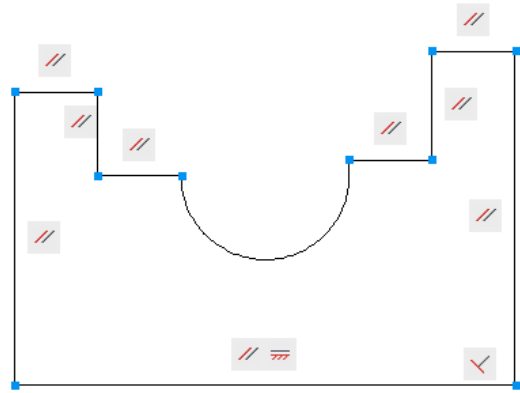

Figure 1-25 Constraints applied automatically
4. Choose the **OK** button; you are prompted to select objects. Select all entities of the sketch by dragging a selection box. Next, press Enter; all possible constraints are applied to the sketch, as shown in Figure 1-25.
The constraints applied using the **AutoConstrain** tool may vary depending upon the profile. In your case, if the constraints are different from that shown in Figure 1-25, apply the missing constraints. Also, choose the **Show All** button from the **Geometric** panel if the constraints are not visible by default.